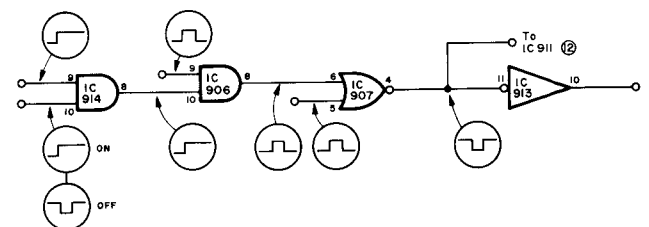

Figure 48-2
6. 6. 6 Cut-Out Memory Circuit (Refer to Figure 48-2)
6. 6. 7 Cut Gate Circuit (Refer to Figure 48-2)